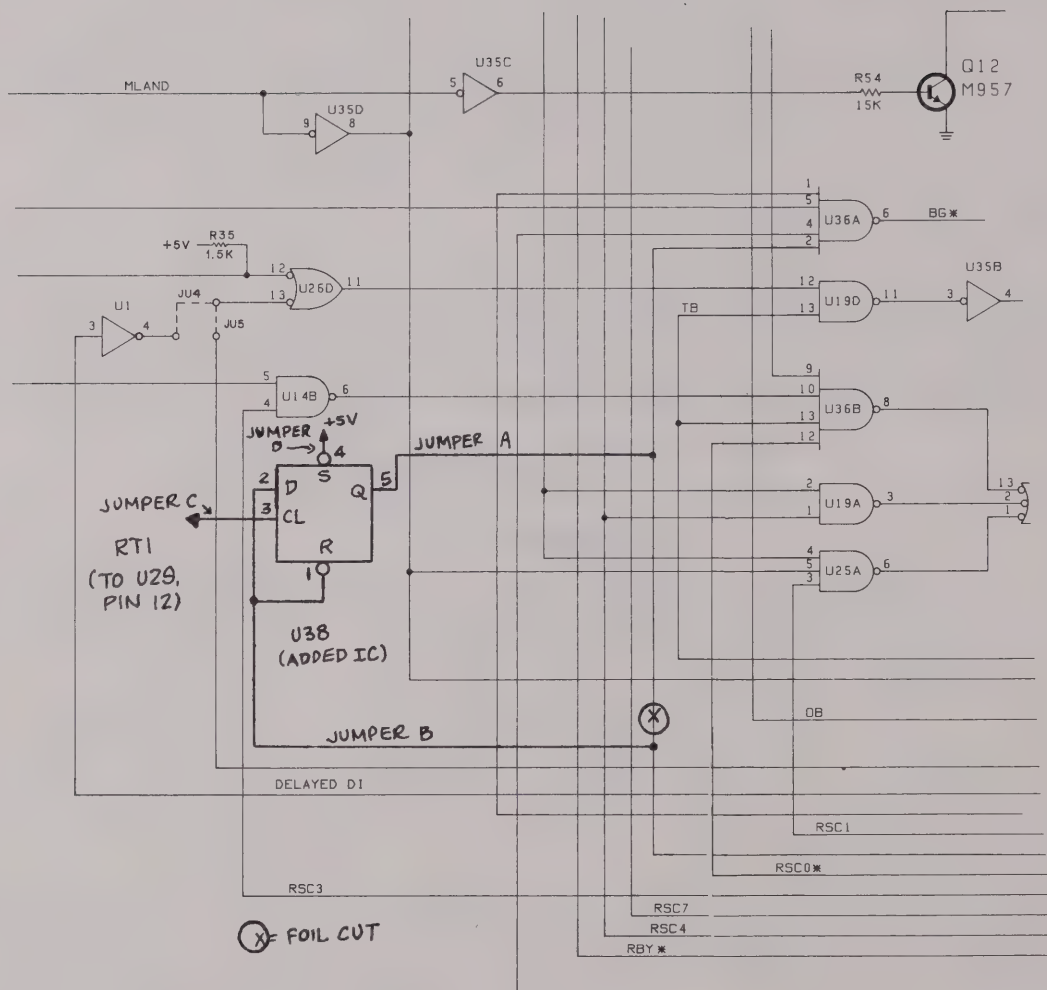
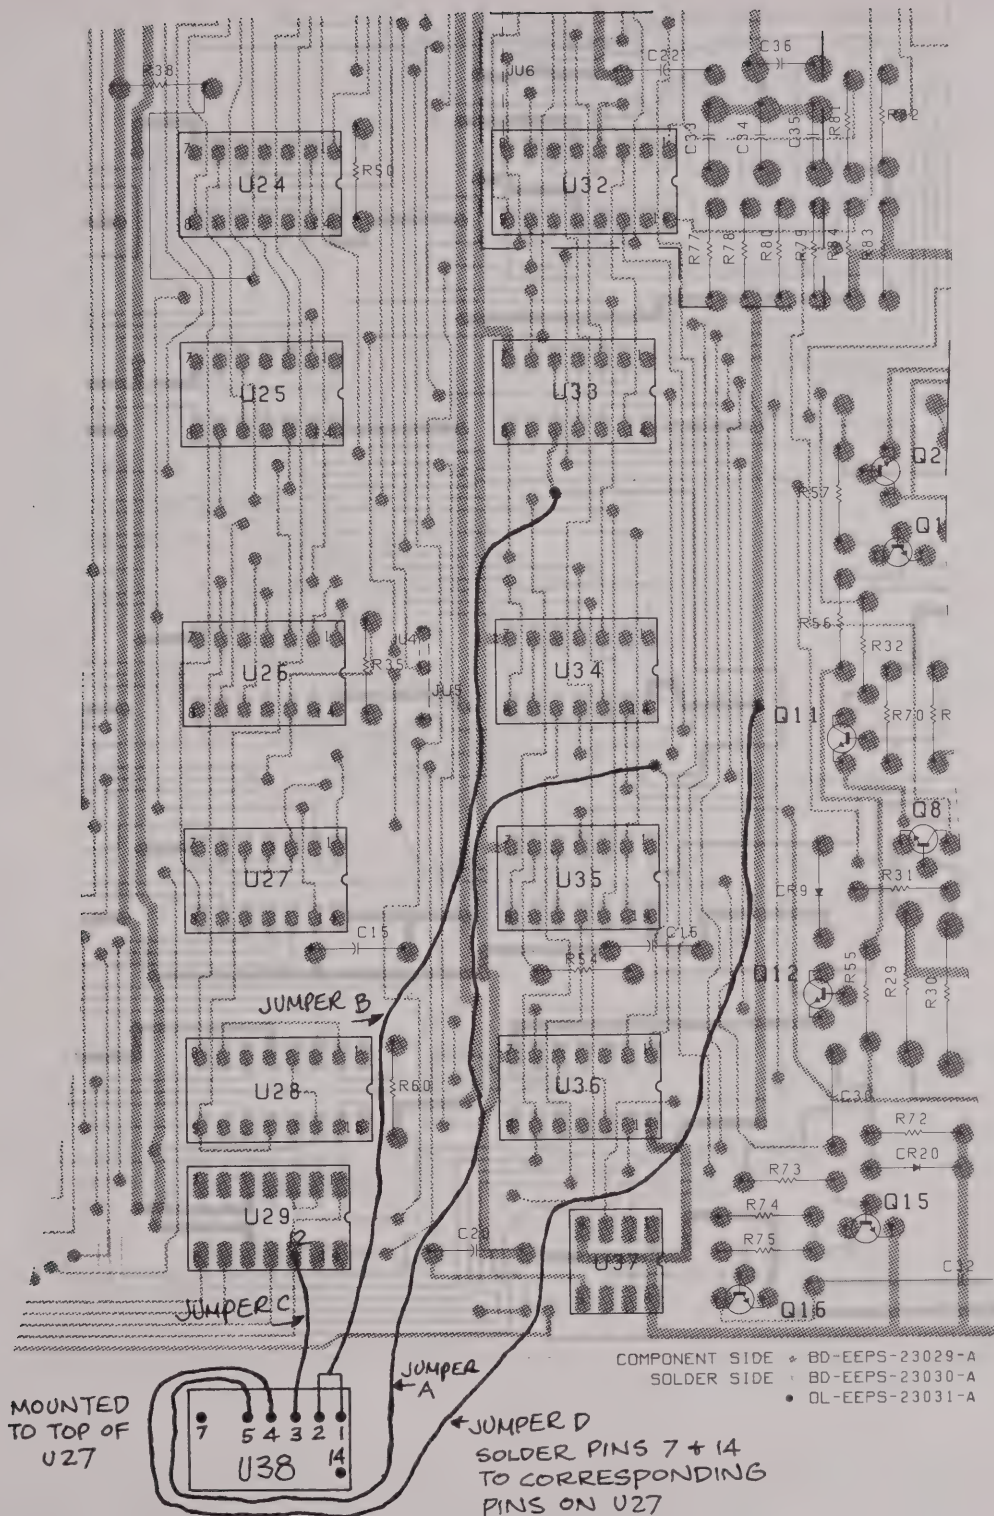

Figure 9. Partial Schematic of TRN6470B/B-1 and TRN6470C/C-1 Register Control Boards Showing Modification Details
Figure 10. Component Side of TRN6470B/B-1 and TRN6470C/C-1 Register Control Board Showing Addition of U38
An additional 51-84371K24, type 7474 "D" flip-flop must be added to the board (see Figure 9) to accomplish the modification. This IC will be physically attached to the top of IC27, as described below and as shown in Figure 10, and will be identified as U38.
- e) Solder insulated jumper wires to pins 1/2, 3, 4 and 5 of the top IC, U38, and solder the opposite ends to the component side of the printed circuit board, as shown in Figure 10.